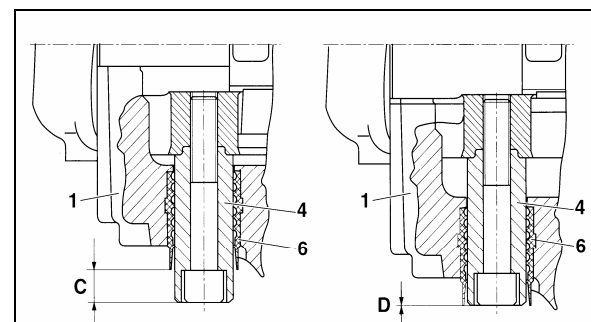

FIGURE 27: BRAKE PAD CHECK
The pad thickness can be seen but would require removal of the tire and rim. An indicator of the pad wear condition is available by inspecting the floating pin location in relation to the rubber bushing as shown in figure 27. When pads are in new thickness condition, the pin will be exposed (C) 19 mm (3/4"). When the pads are worn to replacement conditions, the pin will be nearly flush to the bushing (D) or within 1 mm (3/64") of the edge of the rubber bushing.